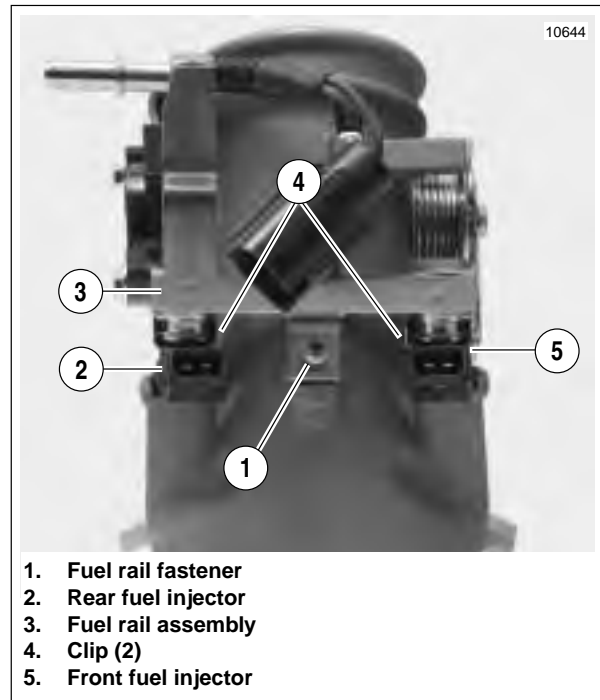

Figure 4-113. Fuel Injectors
6. See Figure 4-113. Install fuel injectors.
- b. Press the fuel rail assembly (3) onto the top of the injectors.
- c. Apply a drop of LOCTITE 222 (purple) to threads of fuel rail fastener (1).
7. Snap the injector clips (4) over the flange on the fuel rail outlet and into the top groove in the injector.